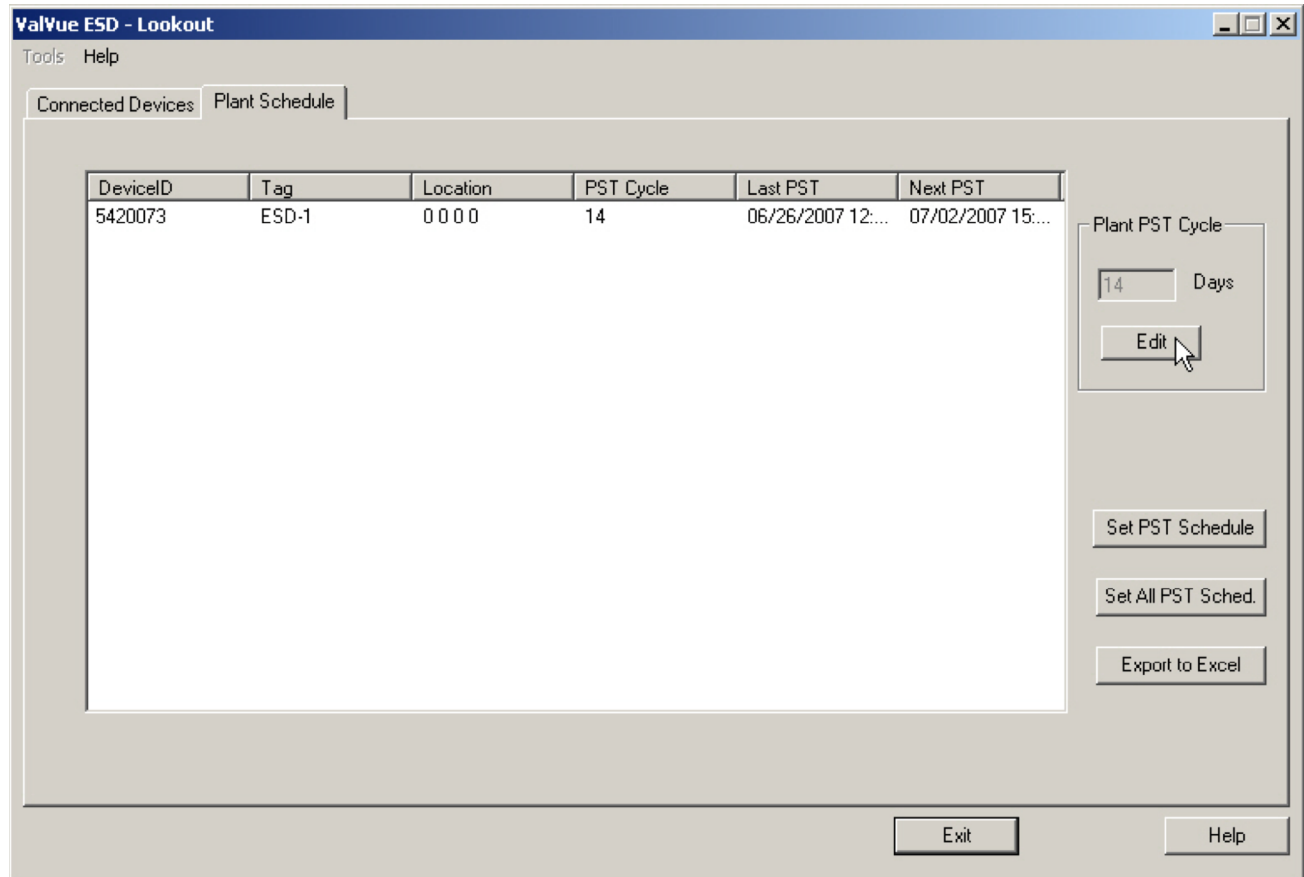

Figure 39 - Accessing Edit Function
1. Click **Edit** (Figure 39).